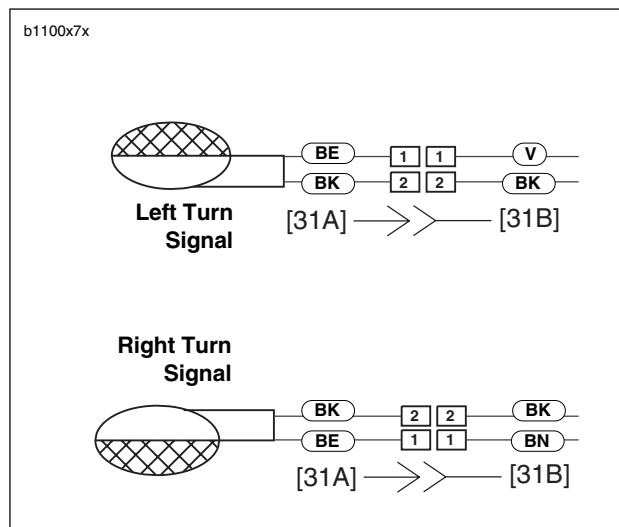

Figure 7-49. Front Turn Signal Connections
1. See Figure 7-49. Disconnect bullet connectors on turn signal wires.
2. Install turn signal (1) using lockwasher (2) and fastener (3). Tighten fastener to 25-28 **in-lbs** (2.8-3.2 Nm).
3. Attach bullet connectors on turn signal wires as shown in Figure 7-49.